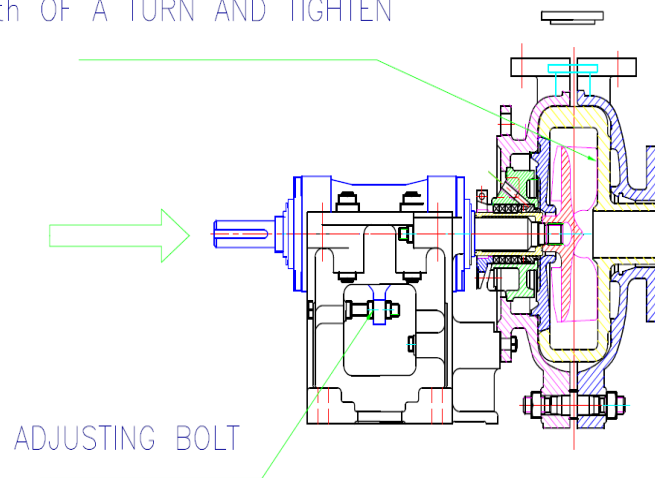

Figure 13 – Adjusting Bolt
5.3.6 IMPELLER ADJUSTMENT - Ref Fig 13